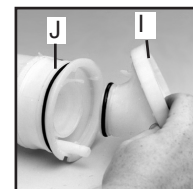

Figure 7.
8. The pump housing (I) is separated from the pressure cylinder (J) by pulling it off. Figure 7. The O-ring can then be replaced.